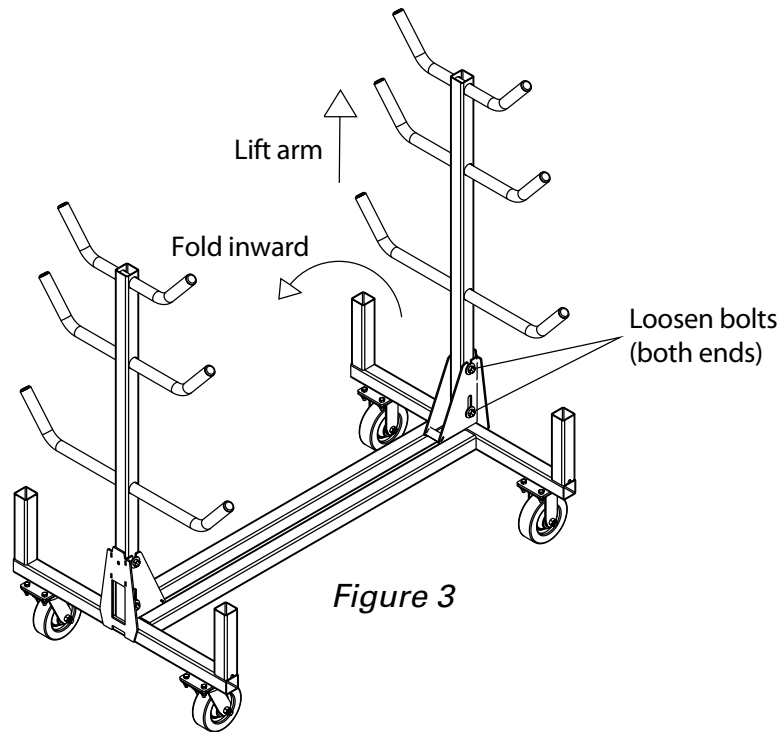

Figure 3
2. Lift the arms high enough to clear the slot at the top of the arm support and fold inward (See Dis-Assembly Figure 3).